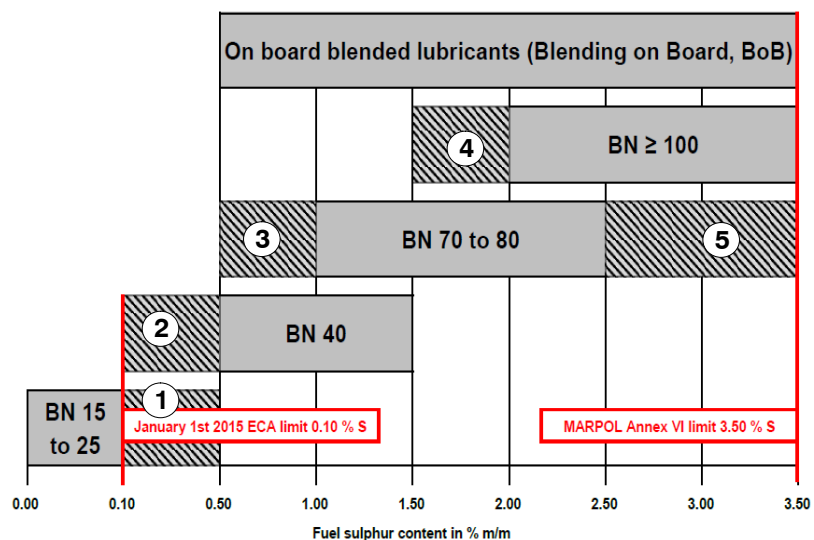

Fig. 1 Selection of Cylinder Oil BN related to the Fuel Sulphur Content
For the initial selection of the cylinder oil you can use the data given in Fig. 1. The higher the sulphur content of the fuel, the higher the BN of the cylinder oil must be.
- If the sulphur content of the fuel is higher than 0.5% m/m, use a cylinder oil with BN 40 or higher as referred to in Fig. 1.
Related to the areas of operation in Fig. 1, WinGD recommends as follows: